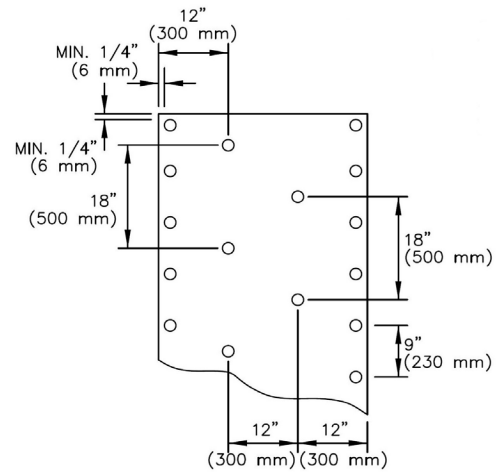

Figure 6
1. When no additional insulation is required, projects with new or existing lightweight insulating concrete substrates will require the use of a Versico supplied base sheet. Refer to Warranty Table II in this Specification for the appropriate base sheet to be utilized. Follow the fastening patterns in Figure 6.